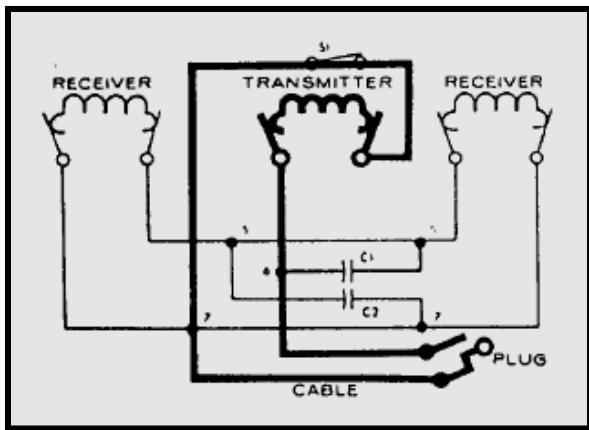
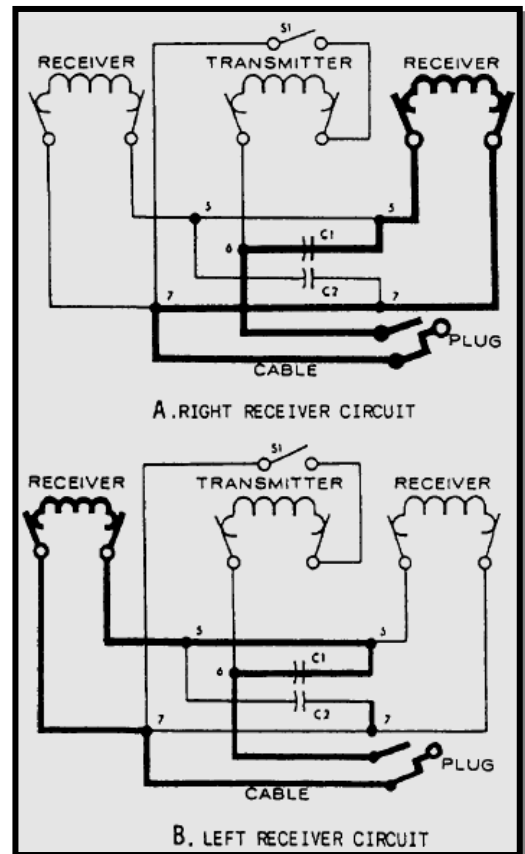

Figure 5-13.—Sound-powered telephone head set-chestset transmitter circuit.
Figure 5-14.—Sound-powered telephone headset-chestset
**OPEN AND SHORT CIRCUITS.**— When testing the units for open and short circuits, you should use a low-voltage ohmmeter to avoid damage to the sound-powered transmitter and receiving units. Continuity tests may be made from the chestplate junction box on sound-powered headset-chestsets. Figure 5-13 is an illustration of the transmitter circuit of a sound-powered telephone headset-chestset. Figure 5-14 is an illustration of the receiver circuits. When testing the plug cable or tinsel cords of a sound-powered headset-chestset, you should disconnect them from the junction box. The normal dc resistances of the sound-powered transmitter and receiver units are 10 ohms and 62 ohms respectively. If the plug cable and tinsel cords test out satisfactorily, then you should check the capacitors.